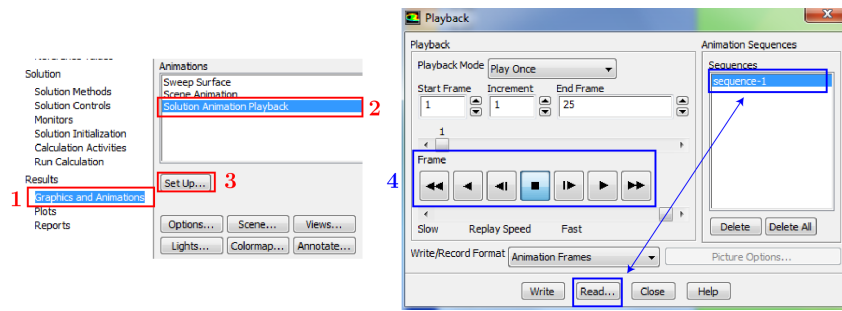

Figure 6.9: Solution Playback window for unsteady simulation
- vii) *Post-processing unsteady results* Follow the steps shown in the Figure 6.9. If there is no file shown in Sequences, but you have made the files earlier, then you can read in the file by clicking Read, and the .cxa file within the same folder as the Fluent case file. Use the play and stop buttons to view the results.